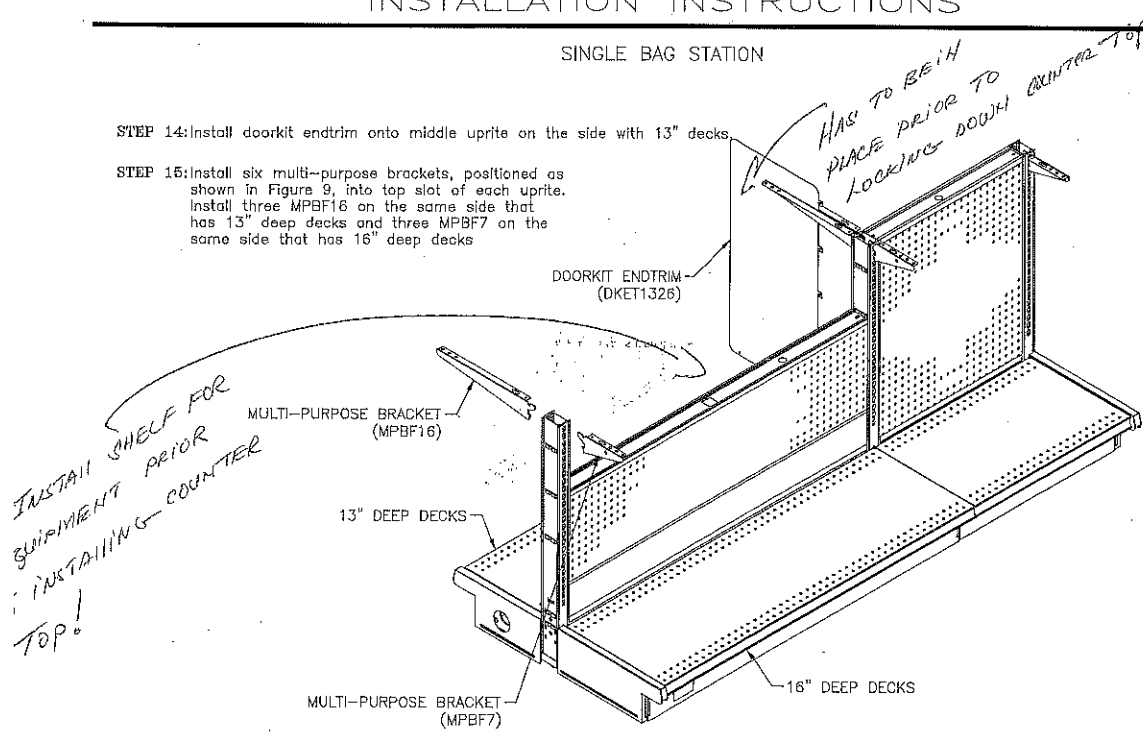

FIGURE 9
STEP 15: Install six multi-purpose brackets, positioned as shown in Figure 9, into top slot of each uprite. Install three MPBF16 on the same side that has 13" deep decks and three MPBF7 on the same side that has 16" deep decks.